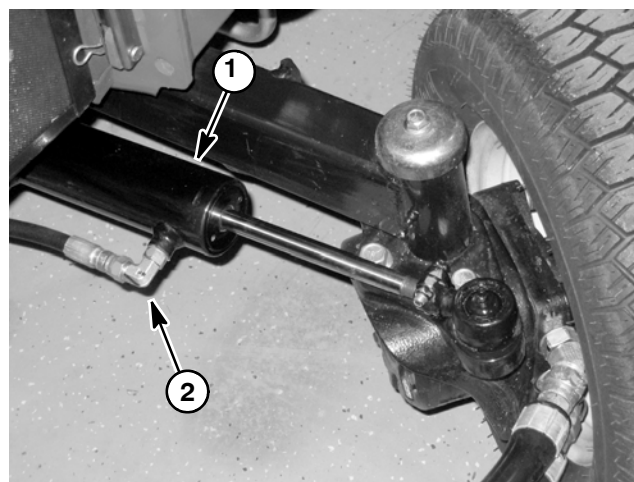

Figure 50
5. Thoroughly clean the area around the hydraulic hose at the rod end of the steering cylinder (Fig. 50).